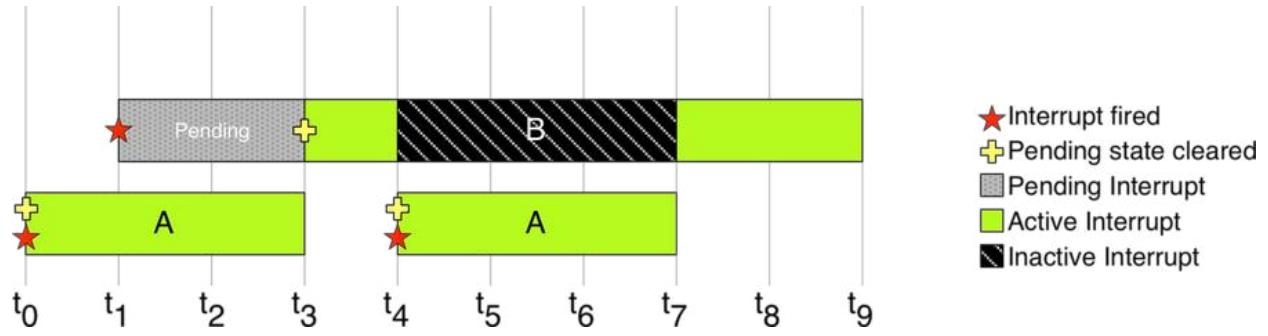

Figure 8: The relation between the active status and interrupts priority
**Figure 8** shows another important case. Here we have that the A interrupt fires, and the CPU can immediately serve it. The interrupt B fires while A is serviced, so it remains in pending state until A finishes. When this happens, the pending bit of B interrupt is cleared, and it becomes active. However, after a while, A interrupt fires again, and since it has a higher priority, B interrupt is suspended (becomes *inactive*) and the execution of A starts immediately. When this finishes, the B interrupt becomes active again, and it completes its job.